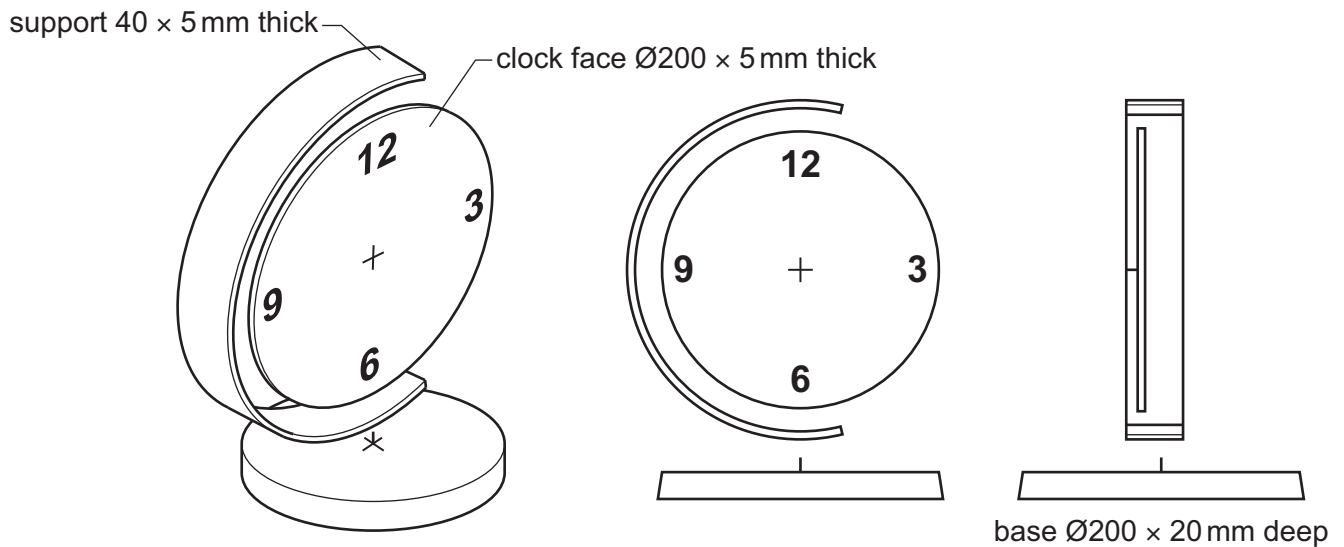

Fig. 12.1
- 12 Fig. 12.1 shows views of an incomplete design for a freestanding clock made from acrylic. The clock mechanism and the clock hands have been removed.
- (b) The support shown in Fig. 12.1 is made by bending a strip of acrylic  $500 \times 40 \times 5$  to shape. The strip will be finished to a high quality before it is bent to shape.